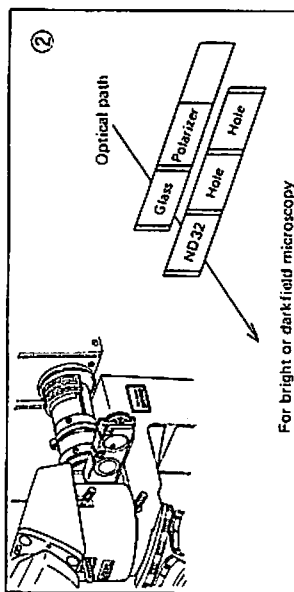

Fig. 6-2
(2) When changing over to bright- or darkfield observation, pull the polarizer slider rightward out together with the ND filter slider, until the slider stops once with a click. (Fig. 6-2)